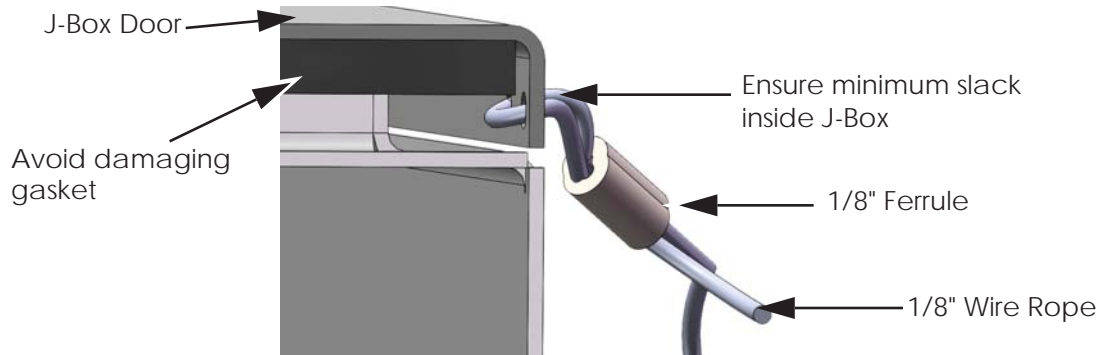

Figure 3: Section View of J-Box Door on Torque Guide
4. Ensure the wire rope does not interfere with the gasket when closing the door. See Figure 3.